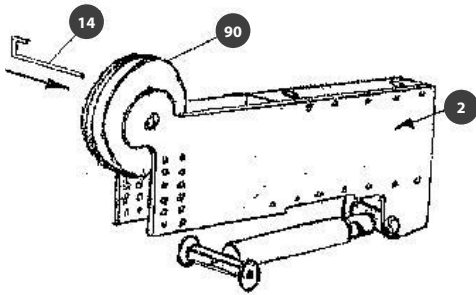

FIGURE 4
BENDER DIE INSTALLATION – Refer to Figures 4, 5, 6, 7, 8
Step 1: Insert sunburst/die installation pin (14) into the $\frac{1}{4}$ " hold in the rotating die (90) as shown in Figure 4. Hang the rotating die in the position shown.